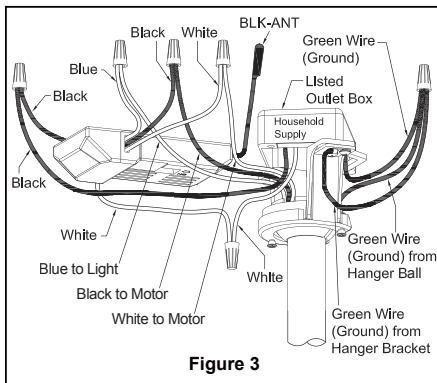

Figure 3
- ☐ 2. Connect green wires from hanger bracket and downrod to bare (ground) wire using wire connector. Connect black wire from receiver unit marked "AC IN L" to black supply wire using wire connector. Connect white wire from receiver unit marked "AC IN N" to white supply wire using wire connector. Connect white wire from receiver unit marked "TO MOTOR N" to white wire from fan using wire connector supplied with receiver unit. Connect black wire from receiver unit marked "TO MOTOR L" to black wire from fan using wire connector supplied with receiver unit. Lastly, connect blue wire from receiver unit to the blue fan light wire using wire connector supplied with receiver unit. (Figure 3)